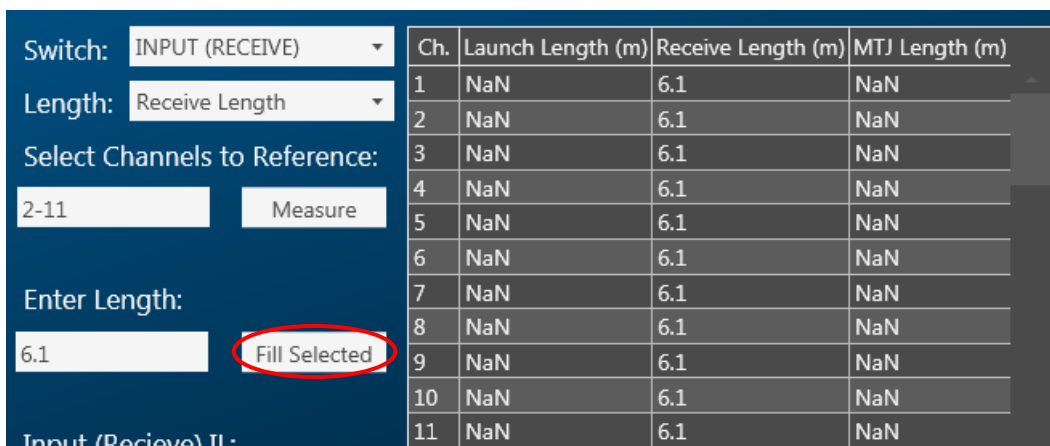

Figure 24: Fill receive length of the input switch
- Repeat for each channel or enter manually if the lengths are known (Figure 24).